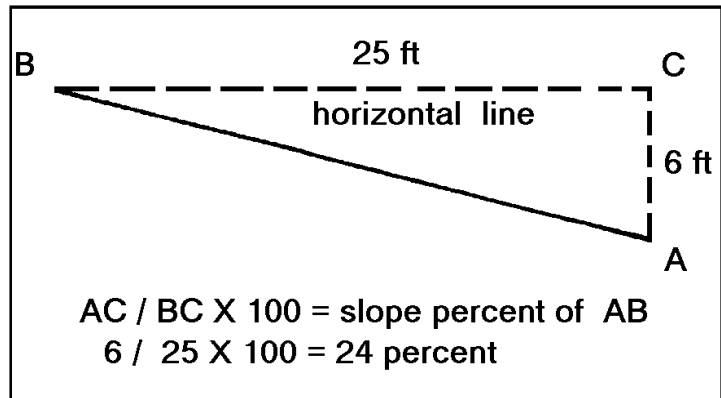

Figure 15: Method of determining slope percent
**Slope percent** is the number of feet of rise or fall in 100 feet of horizontal distance. For contest purposes slope percent is broken into the following categories: 0-20 percent, 0-40 percent and 40 percent plus. Slope percent can be measured with aid of a compass that contains a clinometer needle. Figure 15 illustrates a 24 percent slope.